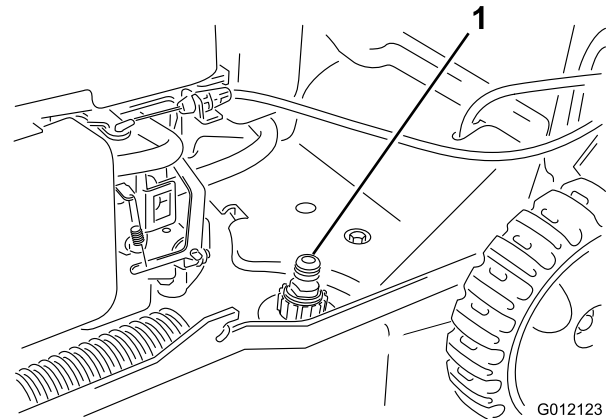

Figure 25
- Attach a garden hose that is connected to a water supply to the washout port on the mower housing (Figure 25).